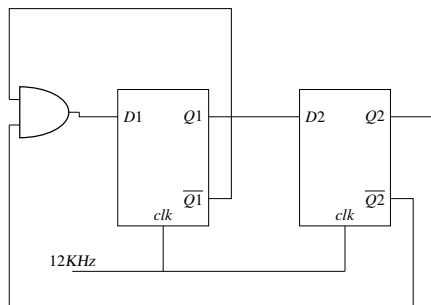

Fig. 5.18
18. In the circuit shown in Fig. 5.18, the clock frequency, i.e., the frequency of the  $clk$  signal, is 12 KHz. The frequency of the signal at  $Q2$  is \_\_\_\_ KHz. (GATE-EC2019,25)